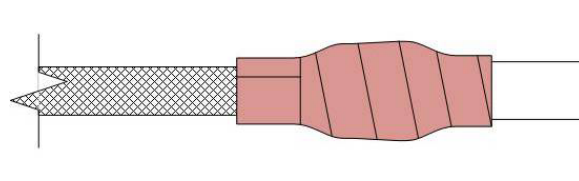

Figure 3
- 3.3.3** Continue to apply the StretchSeal Tape with a 50% overlap until the entire connector is covered and at least one complete wrap of StretchSeal Tape has been installed on the insulated jacket of the coax cable. (see figure 3)